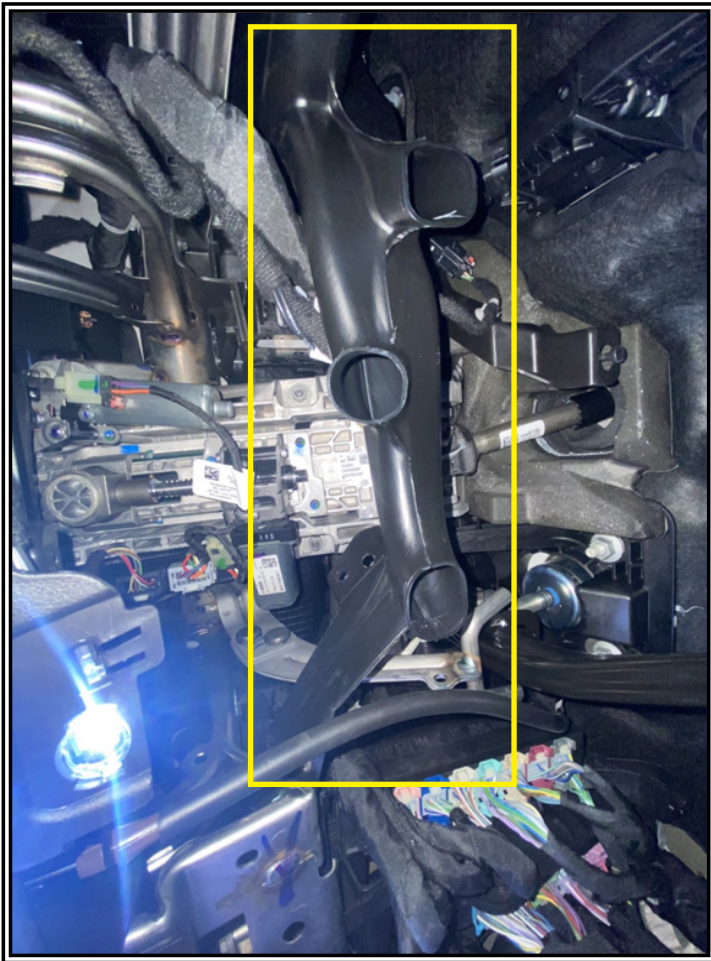

Figure 2
Step 3. Remove the vent shown in Figure 2.